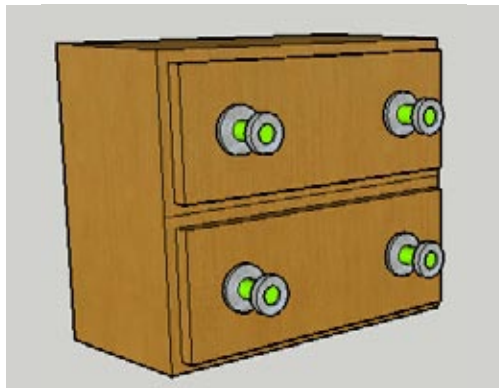

Figure 7-27
- To complete the dresser, find the handle in the In Model folder and place a handle at the other side of the top drawer. Place two more on the bottom drawer, as shown in Figure 7-27. Then erase or hide the construction lines.